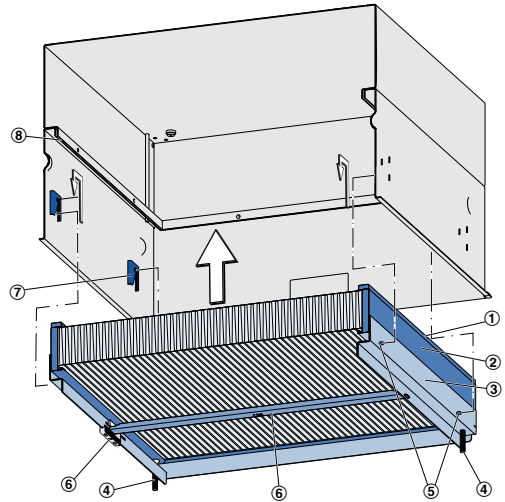

Fig. 6: Inserting filters
1. ▶ Remove the clamping mechanism (Fig. 6/3) from the HEPA filter housing.
2. ▶ Set the filter element (Fig. 6/2) with the seal (Fig. 6/1) facing upwards into the clamping frame.
3. ▶ Insert the clamping mechanism with filter into the casing so that the four supports (Fig. 6/5) lock into the brackets (Fig. 6/7).
4. ▶ Screw in the four clamping screws (Fig. 6/4) evenly with an Allen key size 4 to press the filter onto the filter holder (Fig. 6/8), max. torque 2 Nm.